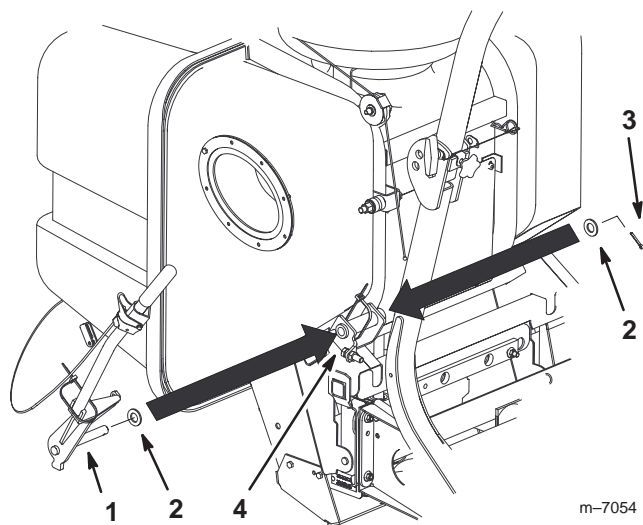

Figure 5
2. Install 1 washer previously removed onto the bagger arm pivot and install the bagger dump handle into the bagger frame (Fig. 5).
3. Secure the bagger handle with the previously removed washer and cotter pin (Fig. 5).